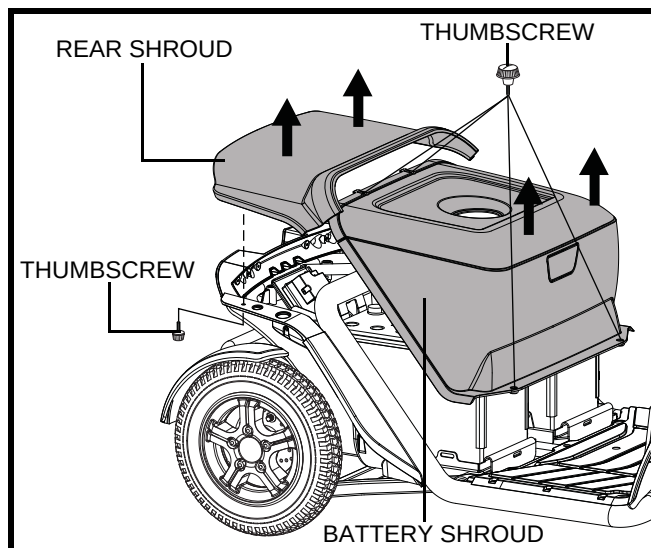

Figure 13. Shroud Removal/Installation
2. Remove the rear shroud by lifting it straight up and off the scooter. The shroud is secured to the scooter with reusable fasteners and two thumbscrews. **See figure 13.**
3. Remove the battery shroud by removing the four (4) thumbscrews that secure it to the scooter frame, and then lifting the shroud straight up and off of the scooter. **See figure 13.**